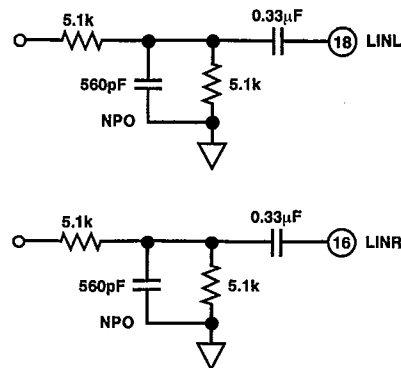
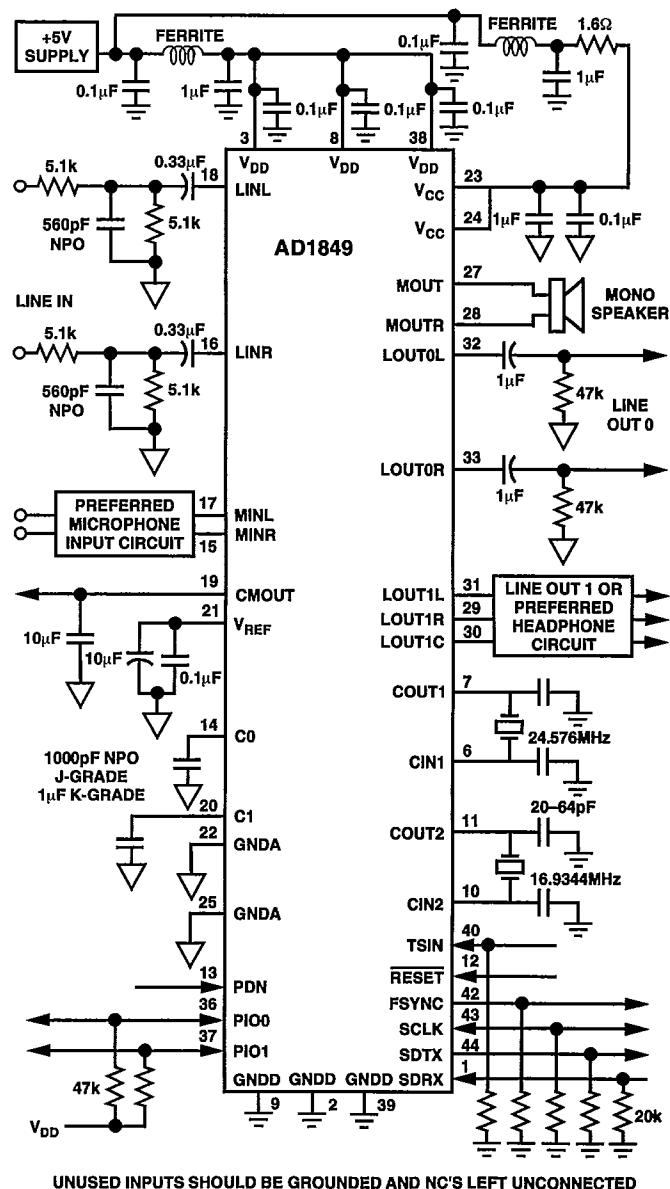

Figure 11. AD1849 2 V rms Line-Level Input Circuit
Figure 21. Typical Connection Diagram
The AD1849 Stereo Codec has been designed to require a minimum of external circuitry. The recommended circuits are shown in Figures 11 through 20 and summarized in Figure 21. Analog Devices estimates that the total cost of all the components shown in these Figures, including crystals, to be less than \$5 in 10,000 piece quantities.
A circuit for 2 V rms line-level inputs is shown in Figure 11. Note that this is approximately a divide-by-two resistive divider.
The two PIO pins must be pulled HI, as they have open drain outputs. Analog Devices also recommends pull-down resistors for SCLK, FSYNC, SDTX, SDRX, and TSIN to provide margin against system noise. CLKIN, CIN1, and CIN2, if not used, should be grounded. A typical connection diagram is shown in Figure 21, which serves to summarize the preceding application circuits.
- The *K-Grade* AD1849 requires an external *passive* antialias filter as shown in Figure 11. In contrast, the recommended input circuit for the CS4215 is a single-pole *active* filter requiring a dual op amp. Though overkill for the AD1849, this input circuit will work with the AD1849 as well.
- The AD1849 was designed to require no external buffering amplifiers on the analog inputs. As shown in Figure 11, the *J-Grade* AD1849 only requires a resistive divider and ac coupling capacitors, though an additional filtering capacitor is recommended in "noisy" environments. In contrast, the recommended input circuit for the CS4215 is a single-pole active filter requiring a dual op amp. Though overkill for the AD1849, this input circuit will work with the AD1849 as well.